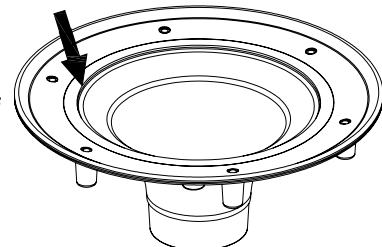

Fig. 3
Step 9 - Cut the membrane as per the roof membrane manufacturer's requirements in the center of the clamping collar. Continue to cut outward until the precast cutting edge in the drain body is located (Fig 3). Once the precast edge is found, cut out circular section of the membrane by following the cutting edge and cutting around the four securing bosses spaced inward on the collar.